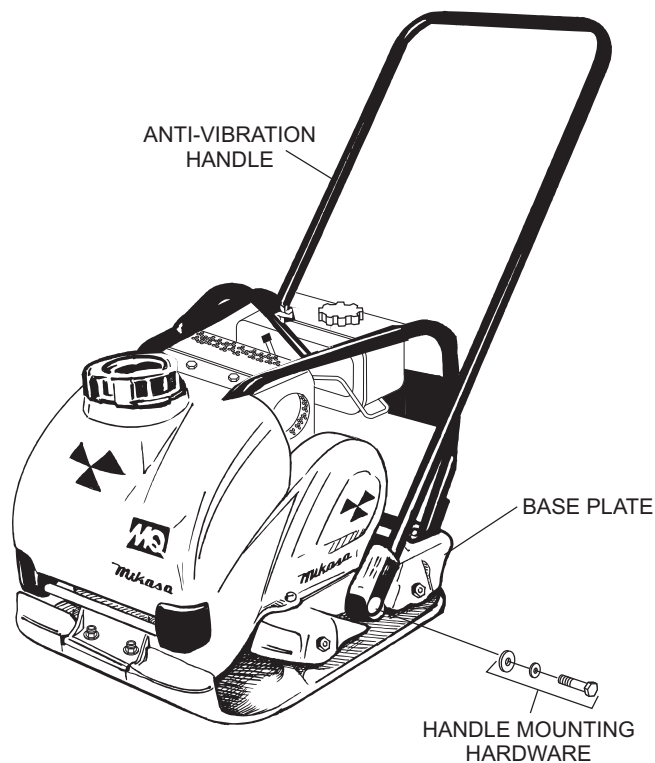

Figure 4. Installing the Steering Handle
1. Remove the bolts and washers (handle mounting hardware) from both sides of the plate compactor (Figure 4).